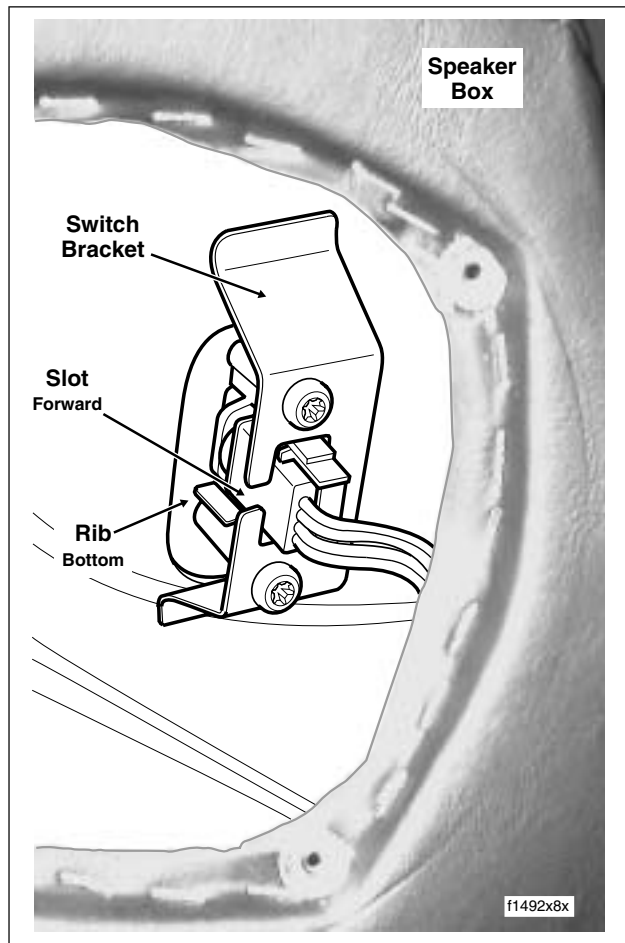

Figure 8-145. Install Passenger Switch Assembly (Right Side Speaker Box Shown)
6. Reaching into speaker box, align holes in bracket with holes in switch housing. Using a T25 TORX drive head, install two bracket screws. See Figure 8-145.